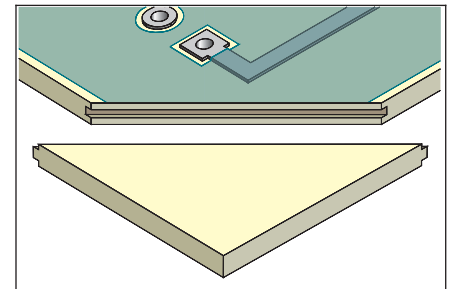

Figure 4 Check fit of new base material.
8. Check the fit to be sure the new base material properly mates with the groove in the printed circuit board. (See Figure 4.)